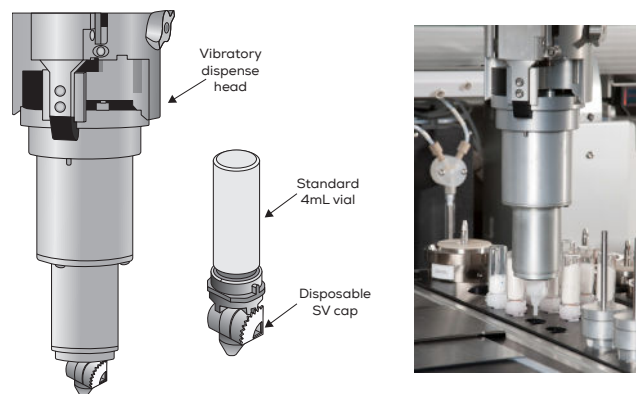

Figure 4: Powdernium SV (storage vial) dispensing.
- **Powdernium SV mode** dispenses solids directly from a standard storage vial using a vibratory dispense head. With a low dead volume, SV mode is ideal for quickly dispensing small amounts of precious materials from compound libraries with maximal accuracy and minimal loss (Figure 4).